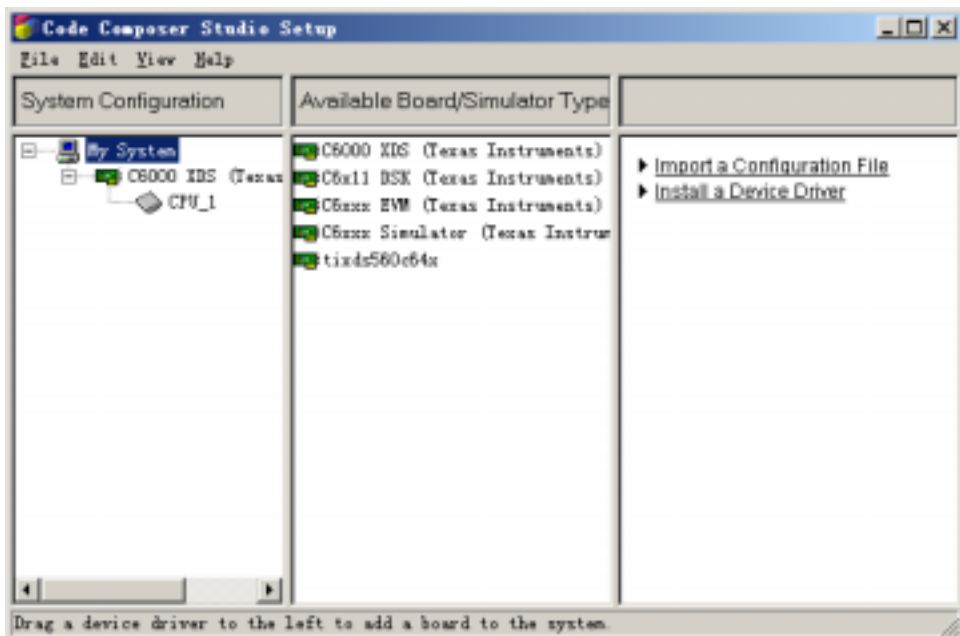
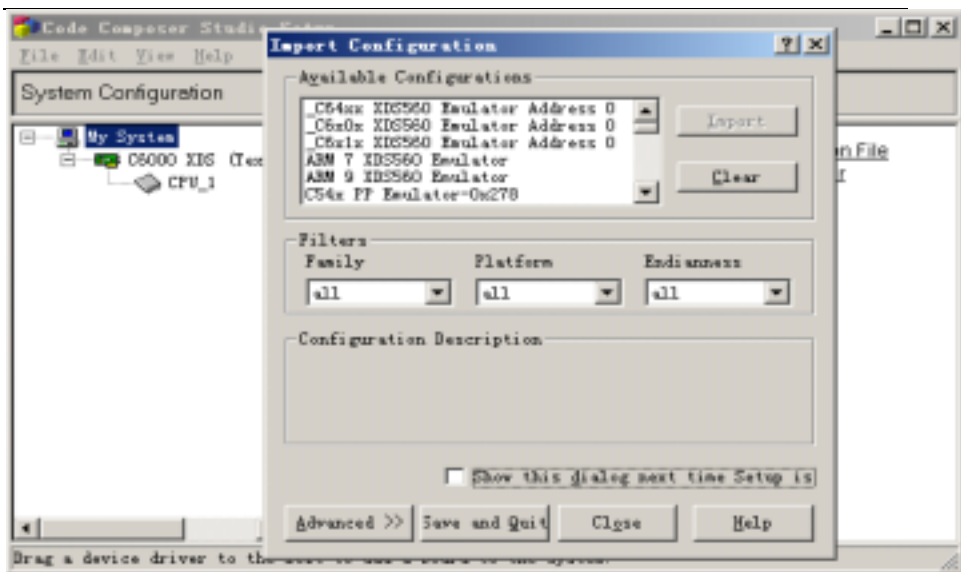

Figure C-1
Figure C-2
2. Double click on C6000 XDS (Texas Instrument) on the middle column (see Figure C-1), the “Board Properties” window will pop-up. (If the “Import Configuration” window appears instead (see Figure C-2), just click on “Close”.)